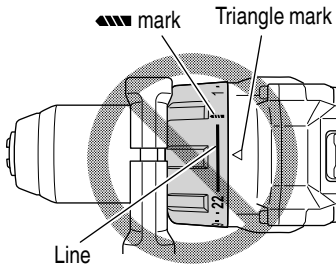

Fig. 16
- (1) When using this unit as a screwdriver, line up the one of the numbers "1, 4, 7 ... 22" on the clutch dial, or the dot, with the triangle mark on the outer body.
- (2) When using this unit as a drill, line up the clutch dial drill mark "▨▨▨" with the triangle mark on the outer body.
- Do not use with the clutch dial set at the line between the number "22" and the drill mark "▨▨▨". Doing so may cause damage (See Fig. 16).